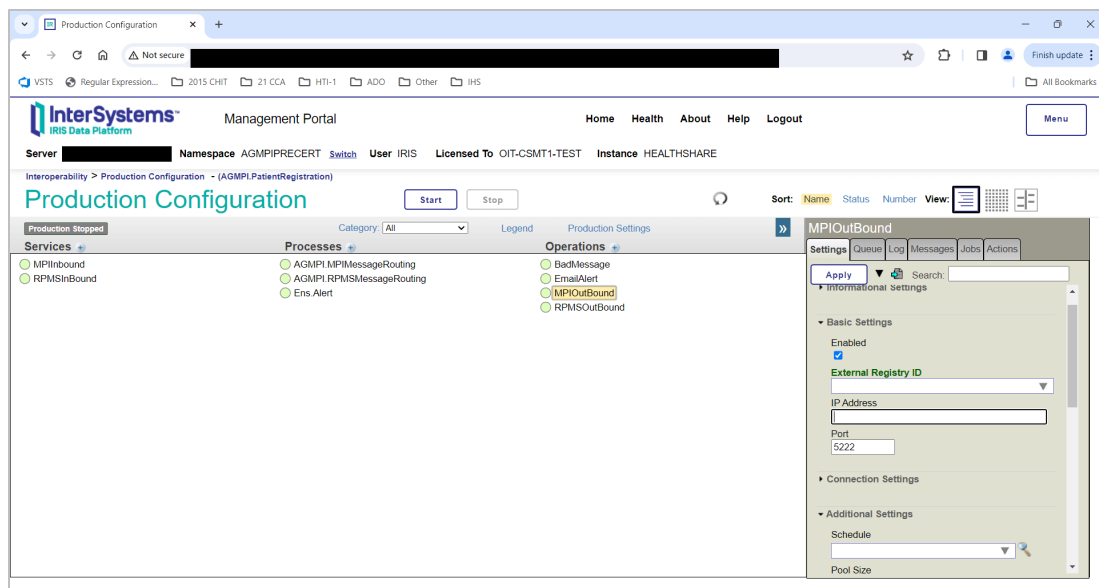

Figure 5-24: **Production Configuration**, MPIOutBound settings
1. Click **MPIOutBound** on the **Production Configuration** page to display the MPIOutBound configuration settings, as shown in Figure 5-24.